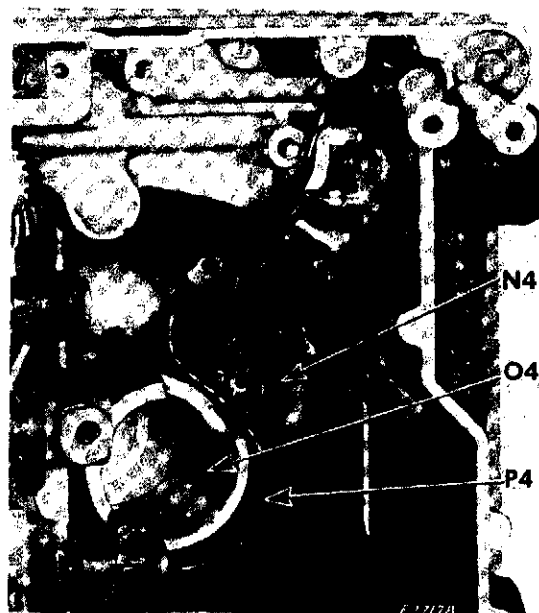

Fig. 301. Location of Wires around Motor
1. Make sure that wire **P4**, **Fig. 301** is correctly located around and under cylindrical tube **O4**; then up behind three-pin terminal **N4**, as shown in **Fig. 301**.
NOTE: Make certain that light leads are above the three-pin terminal and around the cylindrical tube, as shown in Fig. 301, page 145 and instructed in Step #1 under "REPLACEMENT" on page 145.